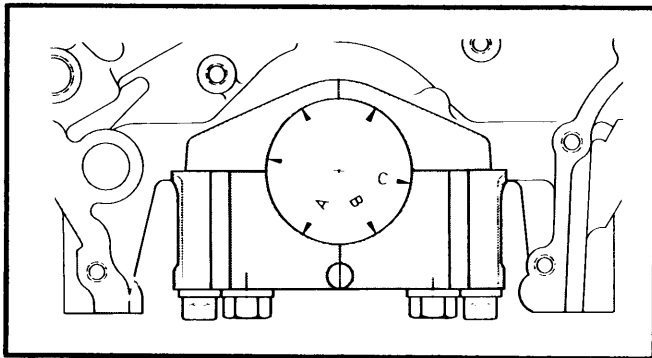

Fig. 5 Location for Measuring Main Bearing Bore Diameter
1) Mount main bearing cap to cylinder block (without bearings in place). Measure inside diameter at three locations. See Fig. 5. Be sure cap is properly positioned when taking reading. Offset bearing caps can be moved into center position by lightly tapping them with a plastic hammer.